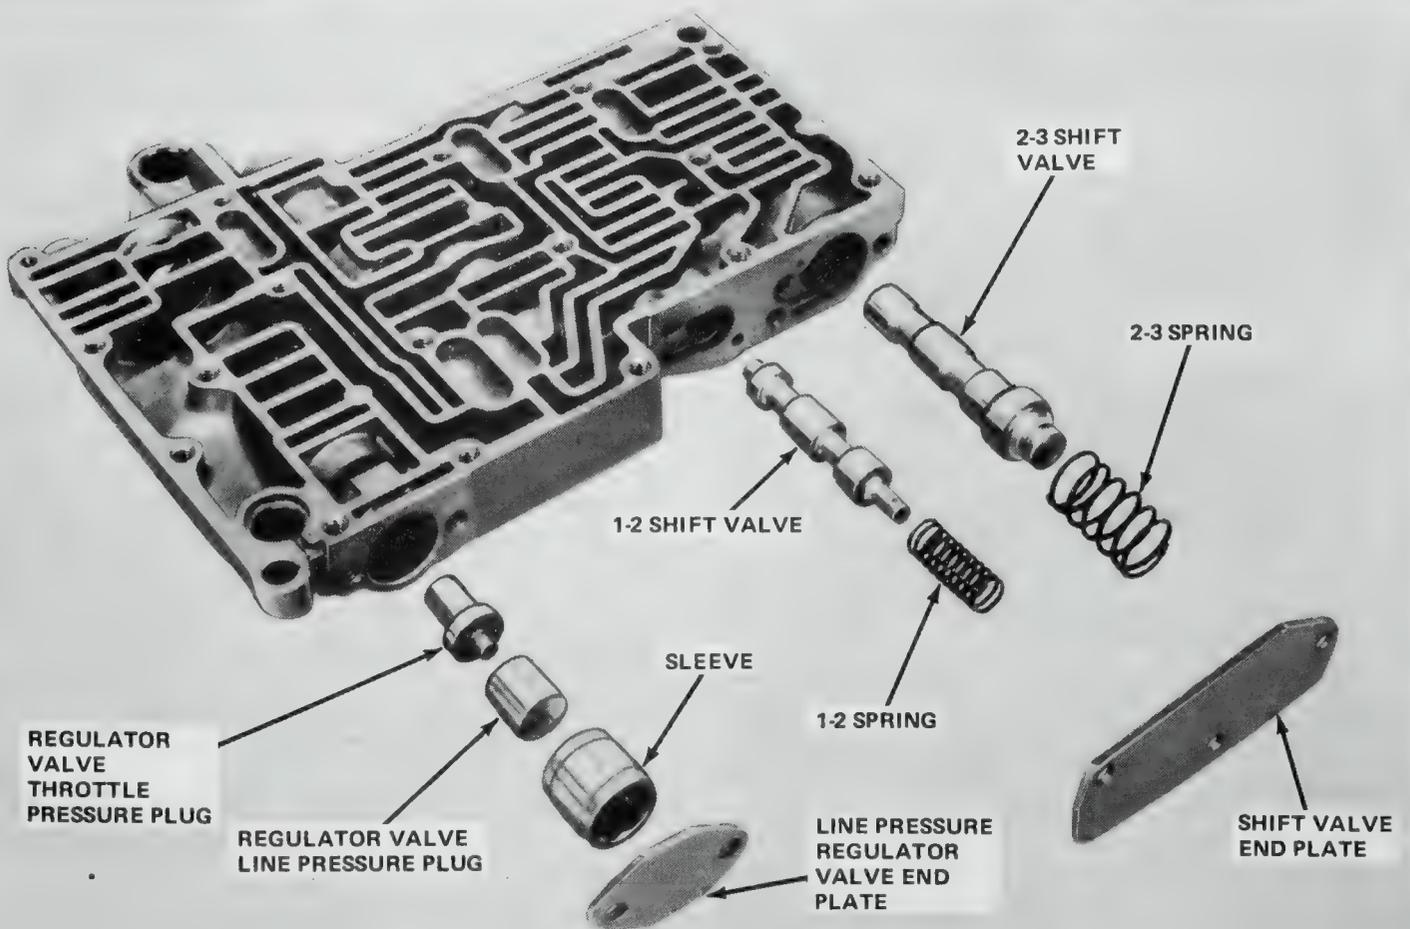

Fig. 2C-49 Shift Valves and Pressure Regulator Valve Plugs—Model 904
(11) Remove governor plug end plate (fig. 2C-47). Remove shuttle valve throttle plug and spring and 1-2 and 2-3 shift valve governor plugs.
(12) Remove shuttle valve E-clip, and slide shuttle valve out of bore.